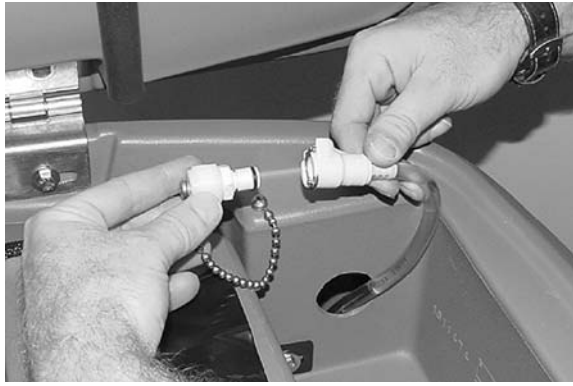

FIG. 45
- FaST Model: Connect the FaST-PAK supply hose to the storage plug when not in use (Figure 45). Remove any dried concentrate from the hose connector by soaking it in warm water.